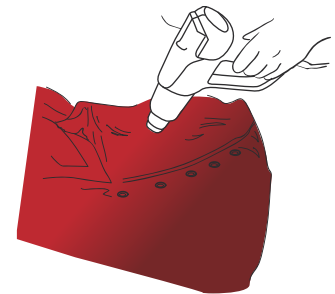

Figure 10
- › Then heat each rivet again to 80 °C - 90 °C (176 °F - 194 °F). (FIG. 10)